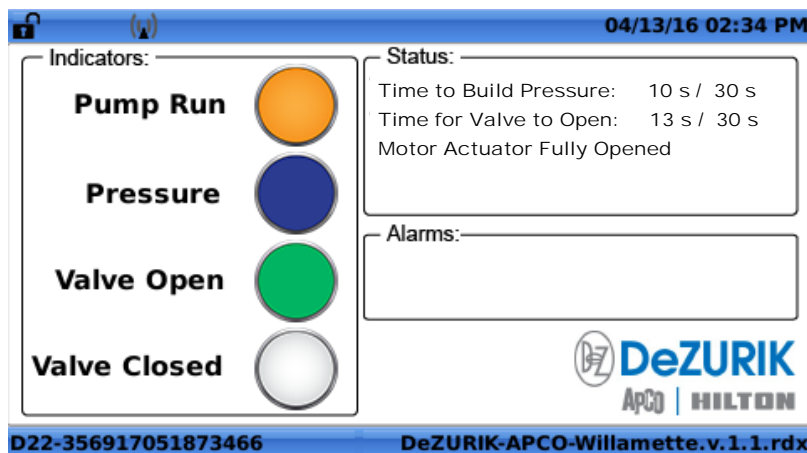

Figure 17B. ECB-CEM Controller Home Screen, Normal Operation
5.3B For Electric Motor Operated Valves Model ECB-CEM (Figure 17B)